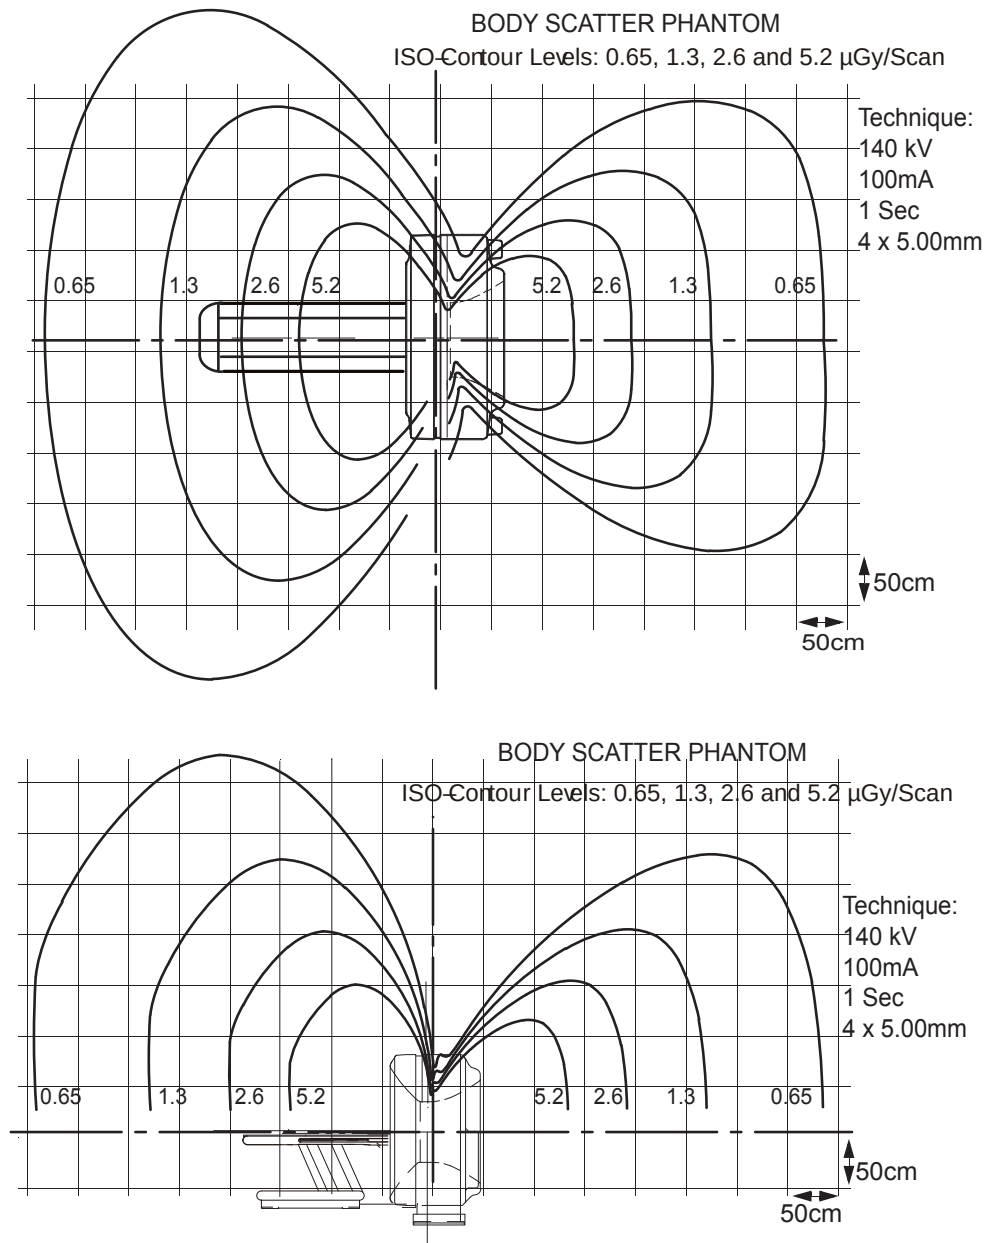

Figure 4-14 Typical Scatter Survey (Body Filter)
- Scatter radiation levels within the scanning room (see Figure 4-14)